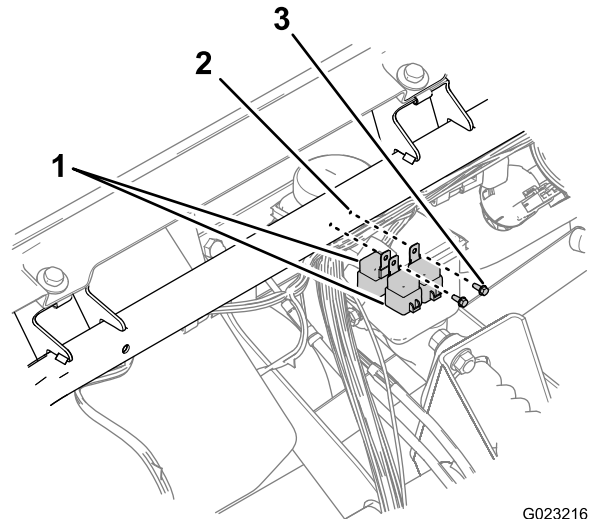

Figure 15
6. Secure a relay to the dash-support tube with the bolt (1/4 x 5/8 inch) at hole that you drilled in the right location (Figure 15).
7. Align 2 relays back-to-back (Figure 15).
8. Secure the 2 relays to the dash-support tube with the bolt (1/4 x 5/8 inch) at hole that you drilled in the left location (Figure 15).